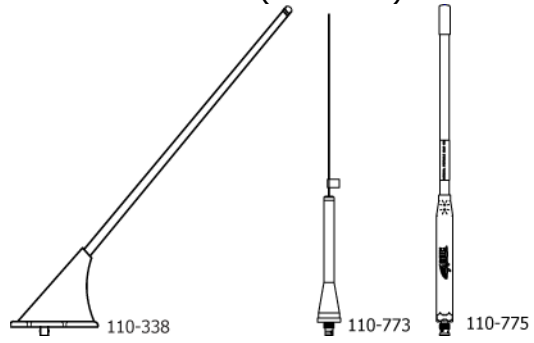

Figure 6 Antennas
- 5) Three antennas are approved for use with the ME406P ELT. Selection of the proper antenna is dependent upon end use, aircraft configuration and speed, and other factors. See Figure 6 Antennas.